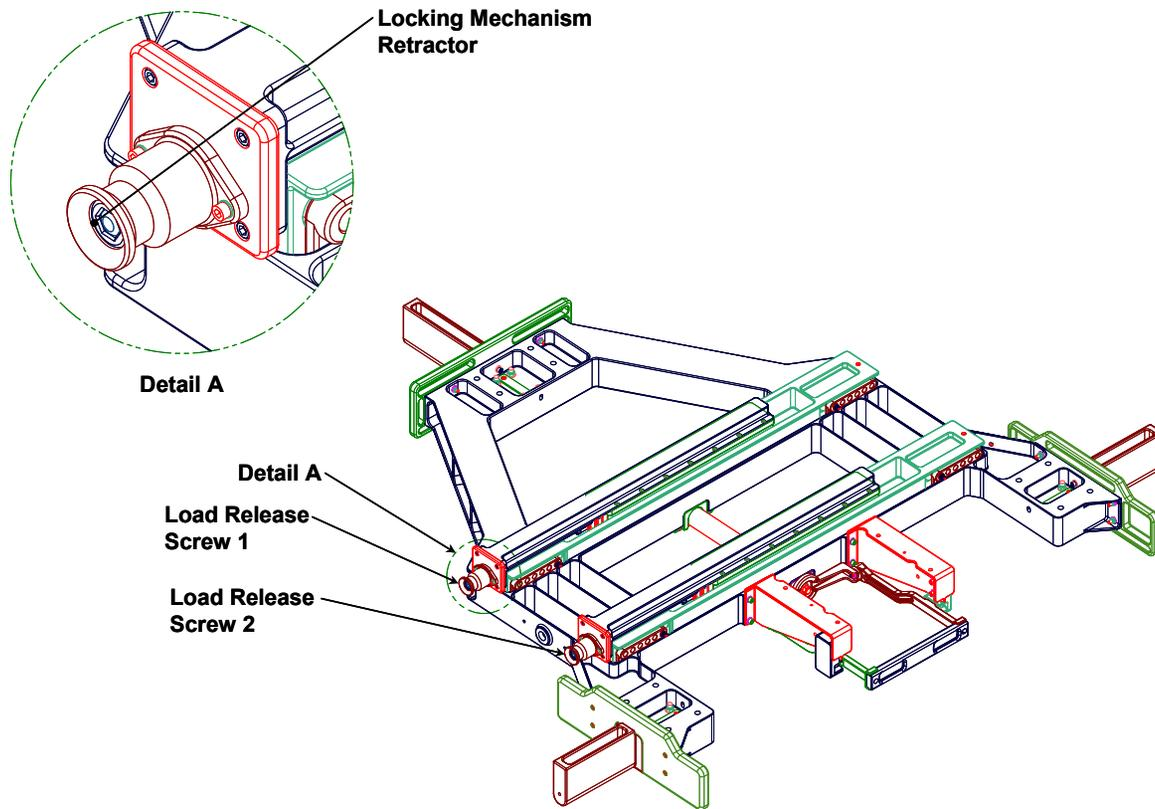

Figure A-3: Load Release Screw
1. Insert a 7/16 (6 point) internal hex drive into the EVA Extension Locking Mechanism, P/N SEG39136828. The EVA Extension Locking Mechanism is a part of the Load Release Screw 1 and 2. See Figure A-3. Depress the locking mechanism retractor a minimum of .375 inches or until bottomed out.